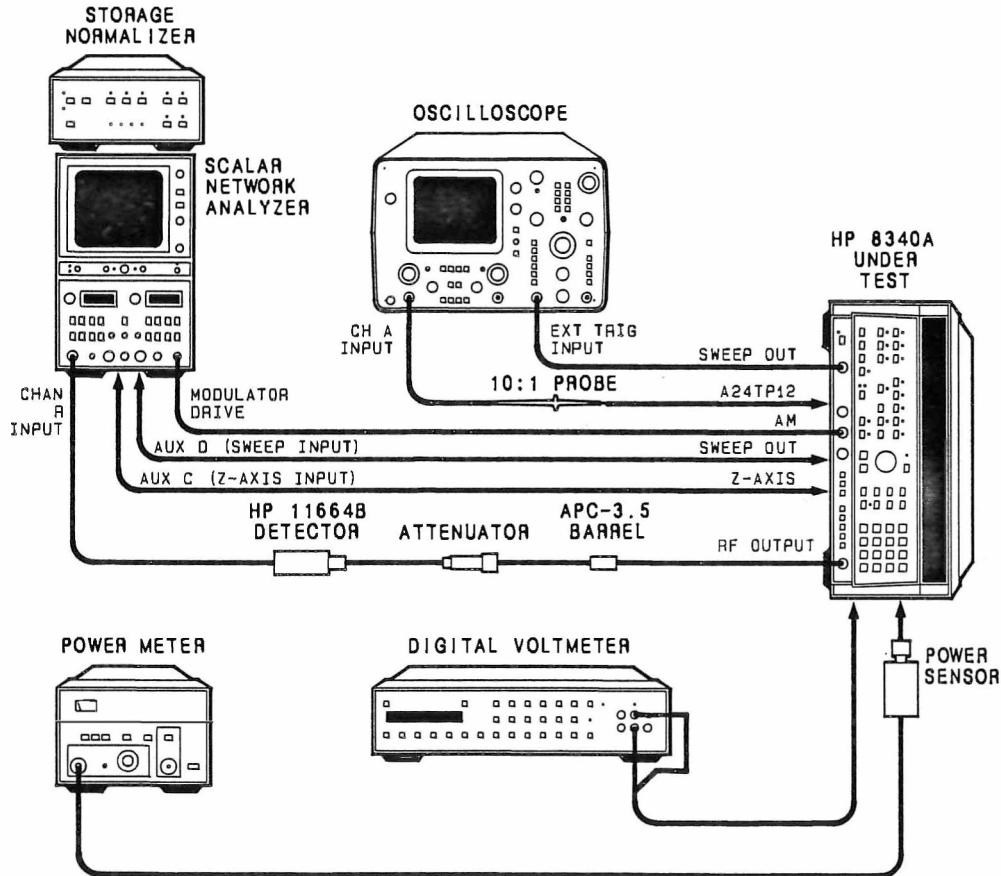

Figure 5-35. SYTM Tracking and Delay, and Unleveled SRD Bias Adjustment Test Setup
1. Place the 8340A in the Test Position and connect equipment as shown in Figure 5-35. Connect Digital Voltmeter (DVM) to 8340A rear-panel 1 V/GHz output connector. Allow one-half hour warmup time.